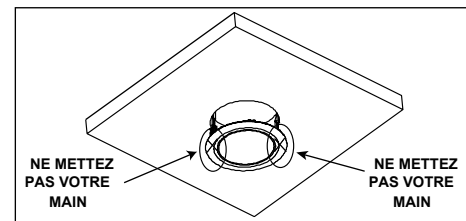

Figure 7
- **NE METTEZ PAS VOTRE MAIN AU-DESSOUS DE LA PINCE À RESSORT PENDANT LE PROCESSUS DE DÉINSTALLATION. L'ENCLÈVEMENT DES PINCES PEUT DES CLIPS PEUT ENTRAINER DES BLESSURES À LA MAIN.** (Figure 7)